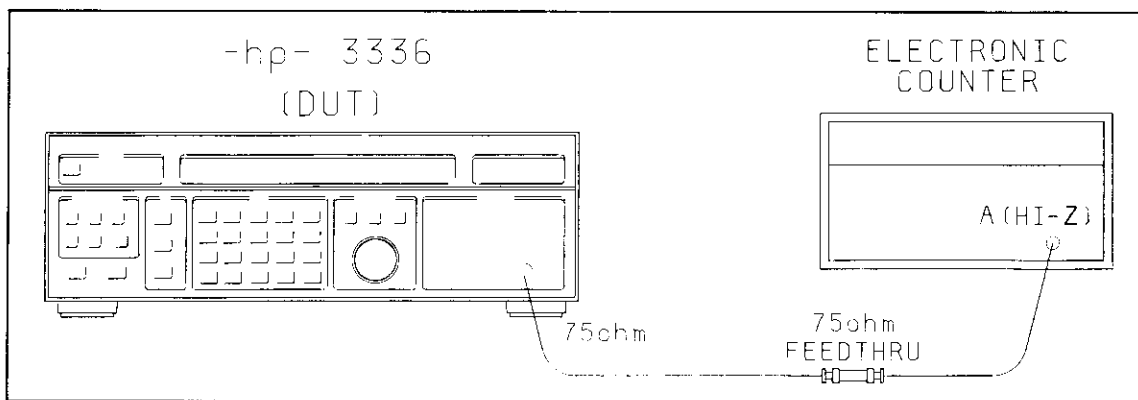

Figure 4-1. Frequency Accuracy Equipment Set Up.
a. Connect the equipment as shown in Figure 4-1.